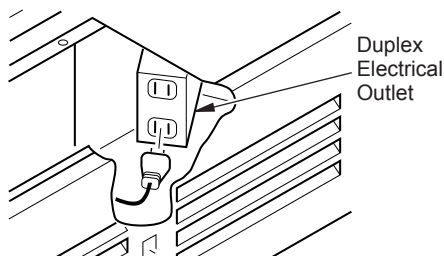

Figure 2 - Accessing Duplex Electrical Outlet Installed in Bottom Right Side of Firebox
⚠ WARNING: If there is a duplex electrical outlet installed in the right side of the bottom of the fireplace base area (see Figure 2), be sure that the electrical power to the outlet is turned off before proceeding with blower installation. Failure to do this may result in serious injury.
3. Plug in blower power cord to duplex outlet (see Figure 2, page 2).